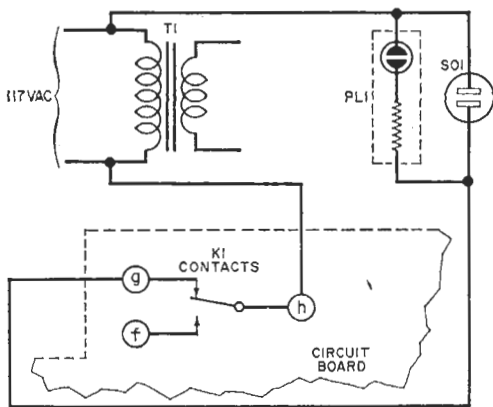

Fig. 1. One method of connecting a power outlet socket to relay K1. PL1 indicates power condition.
Fig. 1. Because the input impedance is many megohms, do not locate the sensor antenna near any source of r.f. noise, as operational range will be reduced. The metal antenna can be any shape desired.
**Construction.** DO NOT remove the eyellet surrounding the MOSFET leads until instructed to do so later in the text. The "People Detector" circuit in Fig. 1 should be constructed on a printed circuit board such as that shown full size in Fig.
For example, a battery (12-volt) can be used in place of the line-operated power supply. You would connect the battery positive lead to the positive input of the "People Detector" (Fig. 1) and the negative lead to the negative input.
The on-off switch ( $S2$  in Fig. 1) is an optional feature and can be replaced